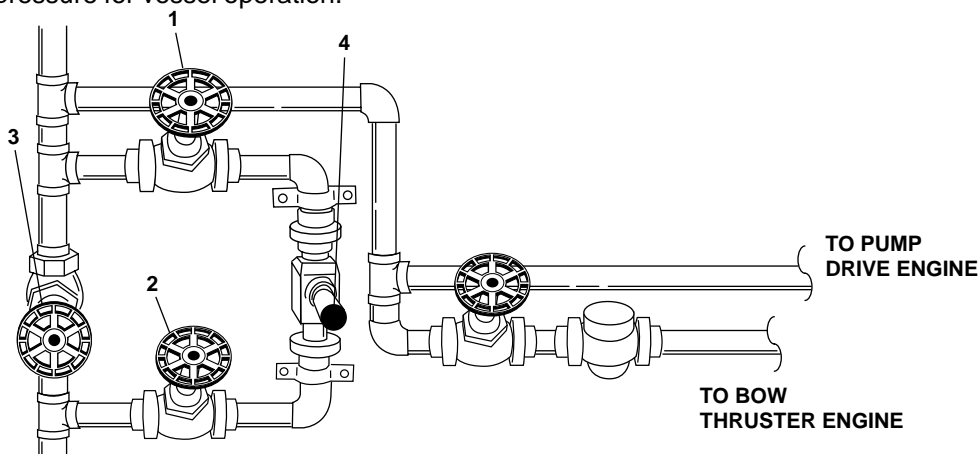

Figure 5. Ship's Service Air Pressure Reducing Valve Bypass Valve
1. CLOSE valves CA-40 SVCE AIR TK INL (figure 5, item 1) and CA-39 SVCE AIR TK INL (figure 5, item 2). Lock out and tag out (FM 55-502).
2. Have one crewmember slowly OPEN valve CA-41 BYP RDC STA (figure 5, item 3) while another monitors the ship's service air pressure gauge (figure 2, item 3).
3. When the ship's service air pressure approaches 125 PSI (8.6 bar), begin to CLOSE valve CA-41 BYP RDC STA (figure 5, item 3). The valve must be fully closed before the ship's service air pressure reaches 125 PSI (8.6 bar).